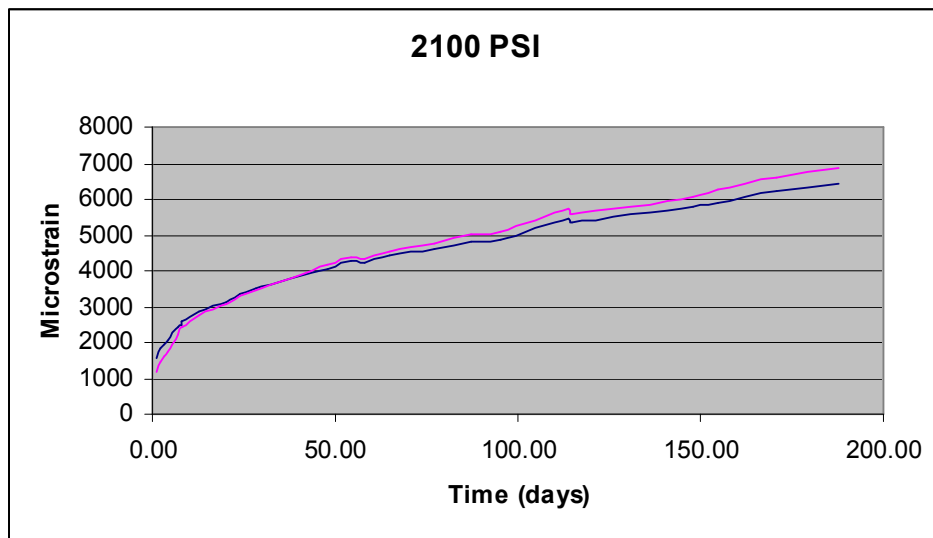

Figure 6: Strain curves for samples at 2100 PSI on a linear scale graph
- Figure 6 shows that the data does, in fact, resemble the primary creep stage